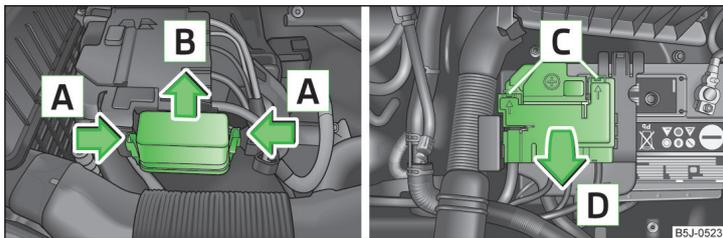

Fig. 152 Vehicle battery: Distribution board cover.
- Press the securing clips on the fuse box cover together at the same time in the direction of arrow **A** » Fig. 152 and remove the cover in the direction of arrow **B**.